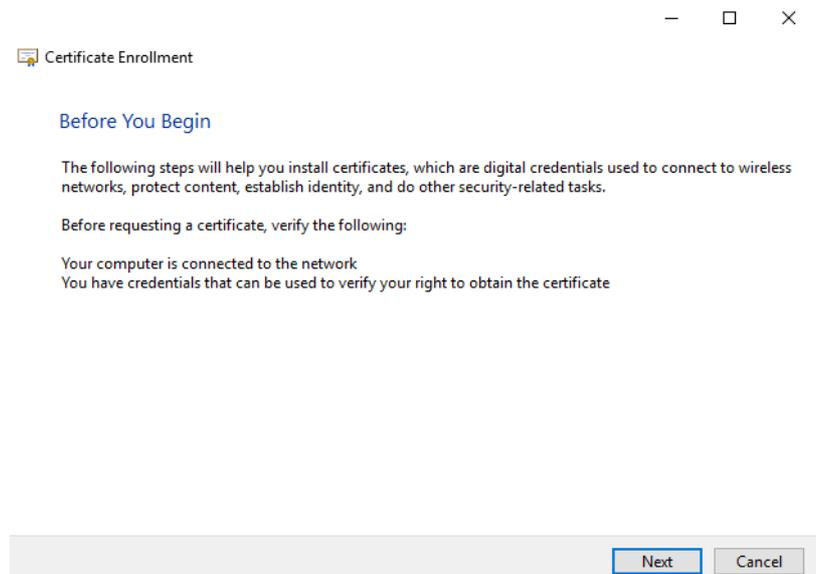

Figure 2-34. Certificate Enrollment Wizard start
4. Follow the steps presented by a **Certificate Enrollment** wizard, see Figure 2-34.